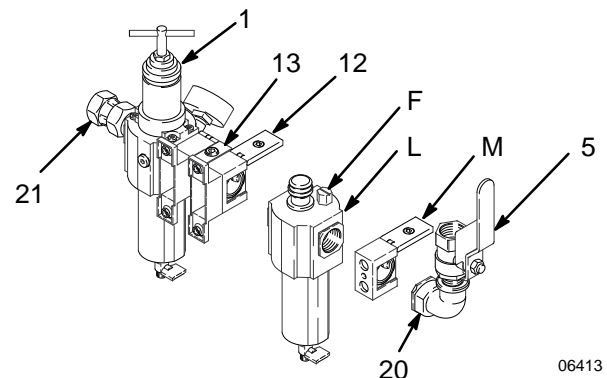

Fig. 2
Open the connector (12) and remove the adapter (20) and connected parts. See Fig. 2. Install the lubricator (L) and the additional connector (M). Reassemble the kit and close the connectors.
To refill, unscrew the fill plug (F, Fig. 2) and pour in the oil. The lubricator's capacity is 7 oz (0.2 liter). Check the oil level with the sight glass. The lubricator can be refilled with the system pressurized. However, always **relieve the system pressure** before removing the bowl for any reason.